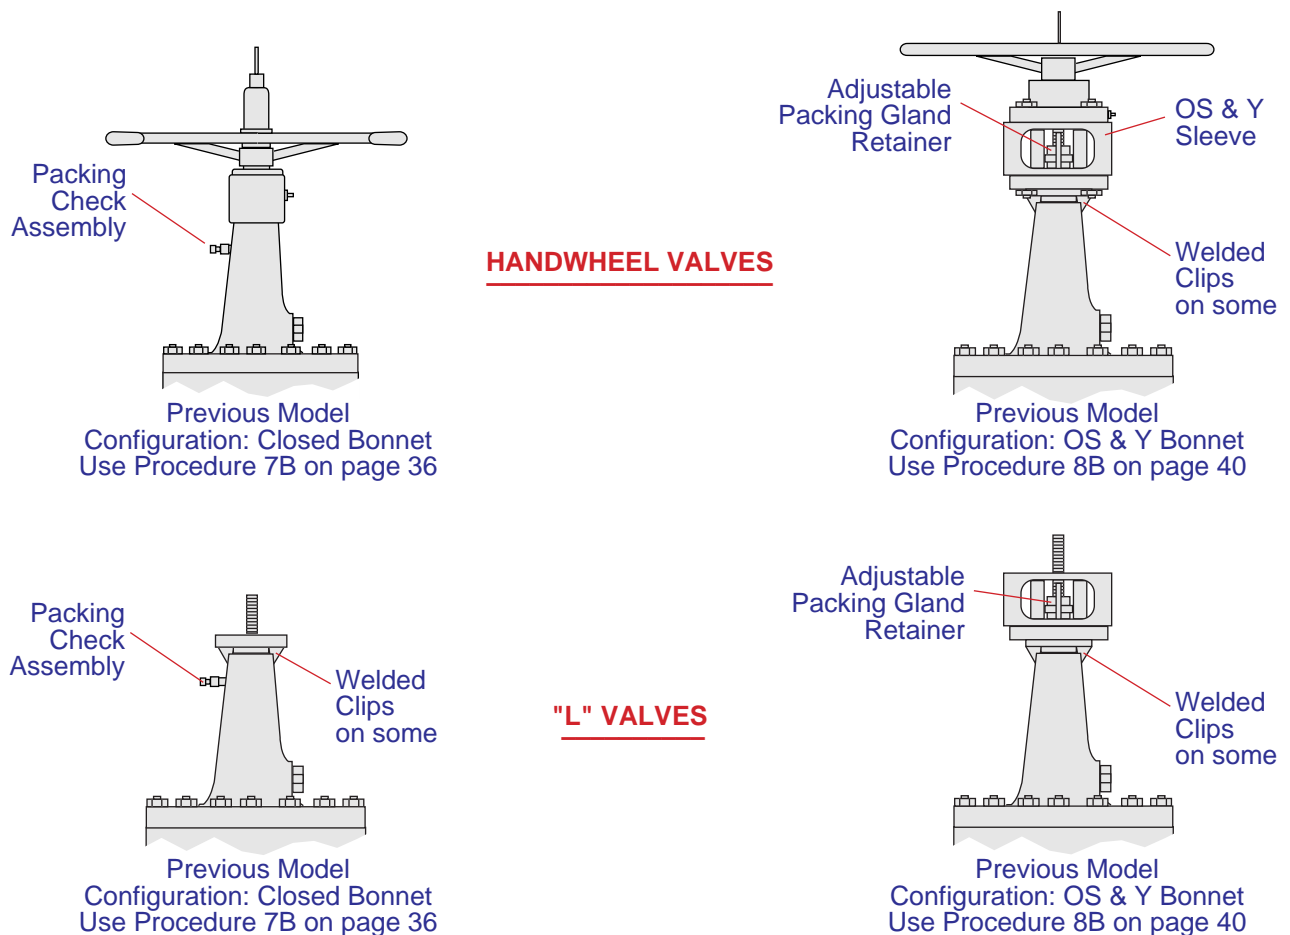

FIGURE 11
3. No prefix (PREVIOUS model) see Figure 11 below for visual inspection to determine the bonnet configuration. The installation procedure page number is given under each illustration.